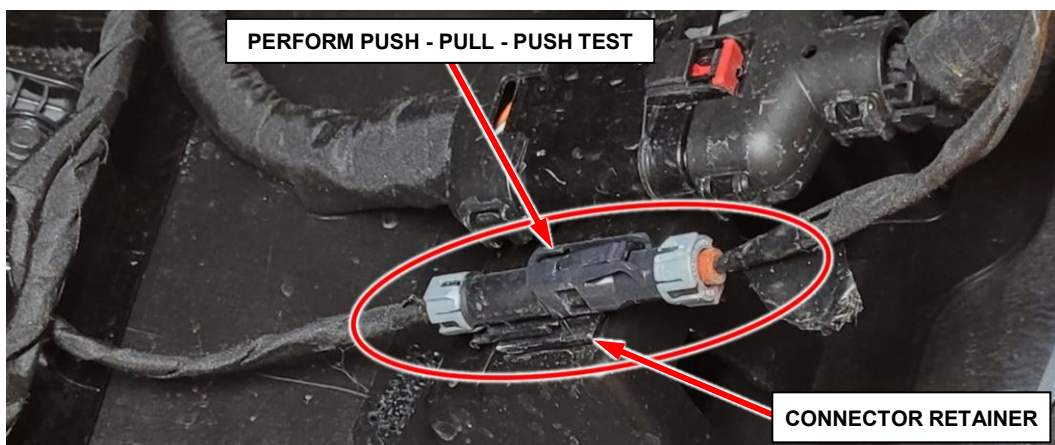

Figure 3 – Ensure Camera Harness Connector Is Securely Attached
7. **All vehicles:** Even if the connector was not previously disconnected. Perform a **Push - Pull - Push** test to ensure the wire harness connector is fully and securely connected (Figure 3).
8. Ensure the wire harness retainer is securely attached (Figure 3).